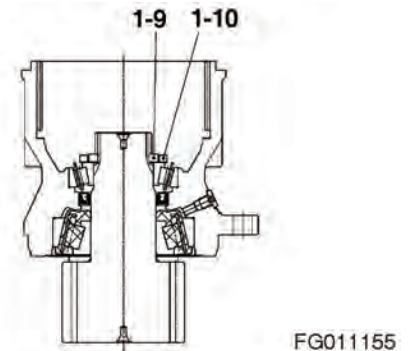
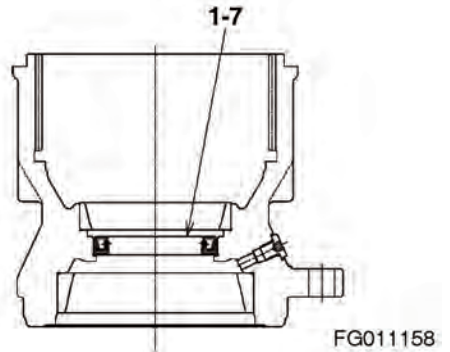
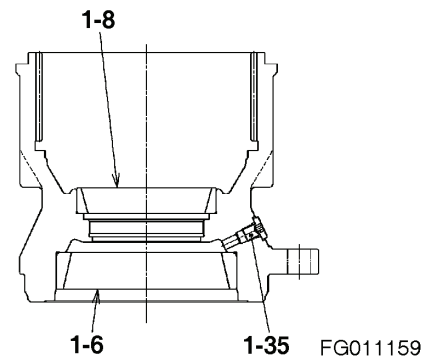

Figure 42
Figure 45
Figure 46
NOTE: When replacing taper roller bearings (1-6, Figure 45) and (1-8, Figure 42), collar (1-3) and plate (1-4), they are to be replaced by body assembly.
8. Remove inner race of taper roller bearing (1-8, Figure 42).
outer races of taper roller bearings (1-8, Figure 42) and
(1-6, Figure 45).
10. Remove outer race of taper roller bearing (1-8, Figure 42) and plug (1-35, Figure 46).